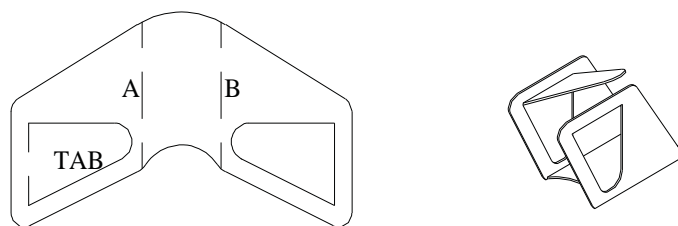

Figure 3-1, Tab and Sides A and B of Splash Guard
| Figure 3-1, Tab and Sides A and B of Splash Guard | 3-1 |
2. Fold tab and sides A and B at perforations of the new splash guard. Remove plastic cutout opposite of tab and discard. See Figure 3-1, Tab and Sides A and B of Splash Guard.